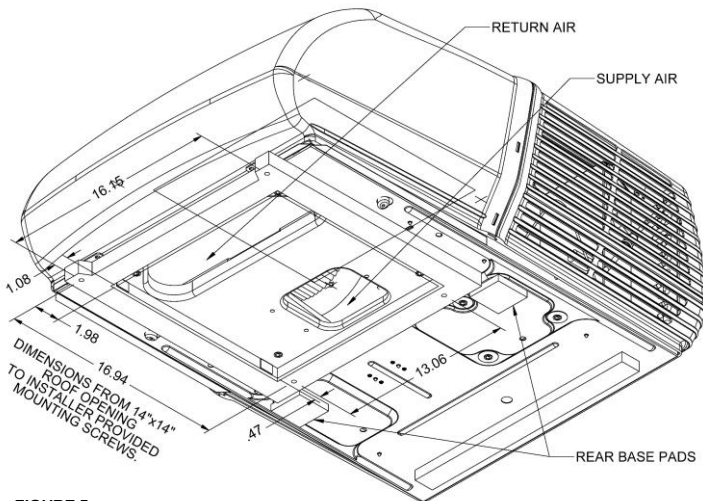

FIGURE 5
4. Using 4 mounting screws and sealing washers, run the screws down through the 2 bulkhead flange holes, 2 front mounting brackets and into the vehicle roof. Tighten rear screws just until the rear base pads contact roof surface (assuming a flat roof surface. Large radius roofs may require additional support gaskets provided by the OEM.) Tighten the front screws until the unit gasket has been evenly compressed. Use care to **NOT STRIP** the screws. See Figure 5 and 6.